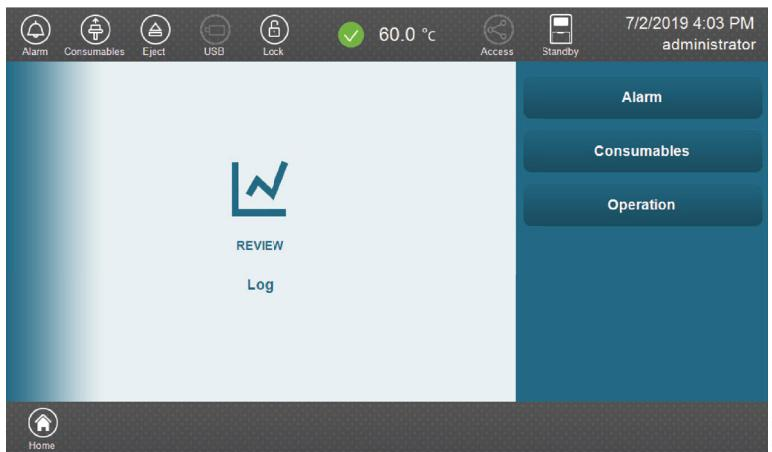

Figure 110. 'Log' screen.
The Spectrum Compact Control Software logs alarm, consumables and operation information for the instrument. These logs can be accessed by selecting **Log**, which is located in the Review section of the 'Main Menu' screen (Figure 9) of the Spectrum Compact Control Software. There are three functions available in the 'Log' screen (Figure 110):
1. Select **Alarm** on the 'Log' screen (Figure 110) to open the 'Alarm Log' screen (Figure 111).
1. Select **Consumables** on the 'Log' screen (Figure 110) to open the 'Consumables Log' screen (Figure 113).
1. Select **Operation** on the 'Log' screen (Figure 110) to open the 'Operation Log' screen (Figure 115).
1. Select either **Alarm**, **Consumable** or **Operation** on the 'Log' screen (Figure 110).